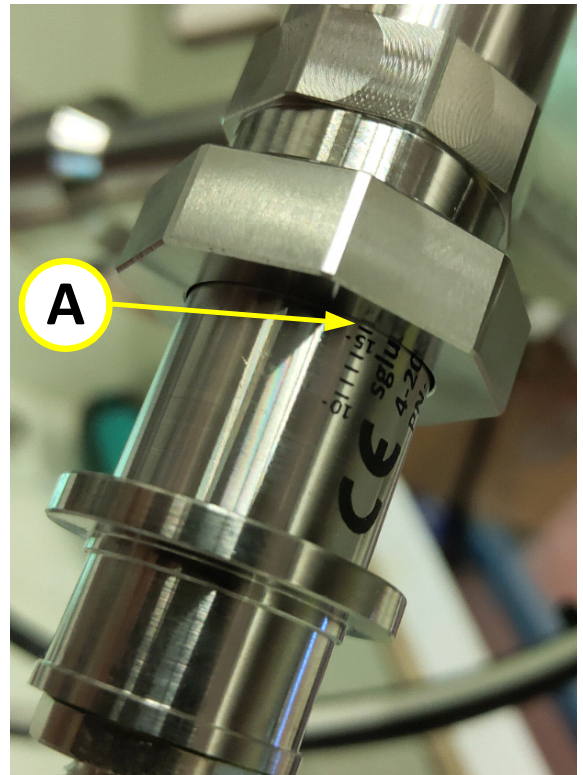

Figure 10-26: Using mm scale as position reference
- Step 1.** Before removing the UVIS sensor, look at the point where the millimeter scale on the sensor touches the securing nut (**A** in Figure 10-26).
- Step 8.** When you return the sensor to its place, make sure to insert it to the same reference point on the mm scale (**A** in Figure 10-26) recorded in **Step 1.** on page 120.